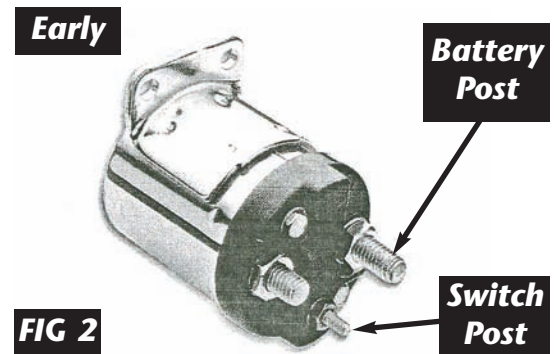

FIG 2
4. On 1965-1988 models, connect the larger connector to the longer of the two large posts. This is the battery positive connection. Attach the small alligator clip to the trigger post. This is the smallest of the three posts. **See Fig. 2.**